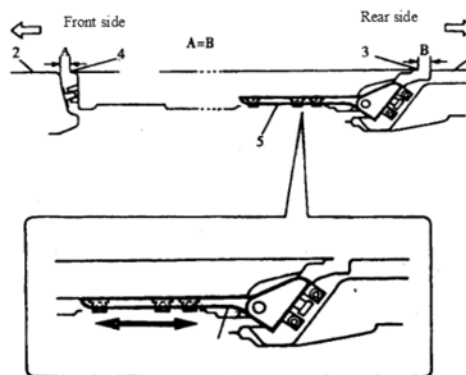

Fig. 4.1-30
3) Dismount slide door inner handle, slide door inner trim board and slide hinge hole seal membrane. Regulate slide hinge 5 to make door rer end surface 3 and body surface 1 aim at one line mutually, at the same time regulate the clearance B between door rear end and body 1, the clearance between door front end 4 and body 2, to make them equal in the state of door closing. See Fig. 4.1-30.